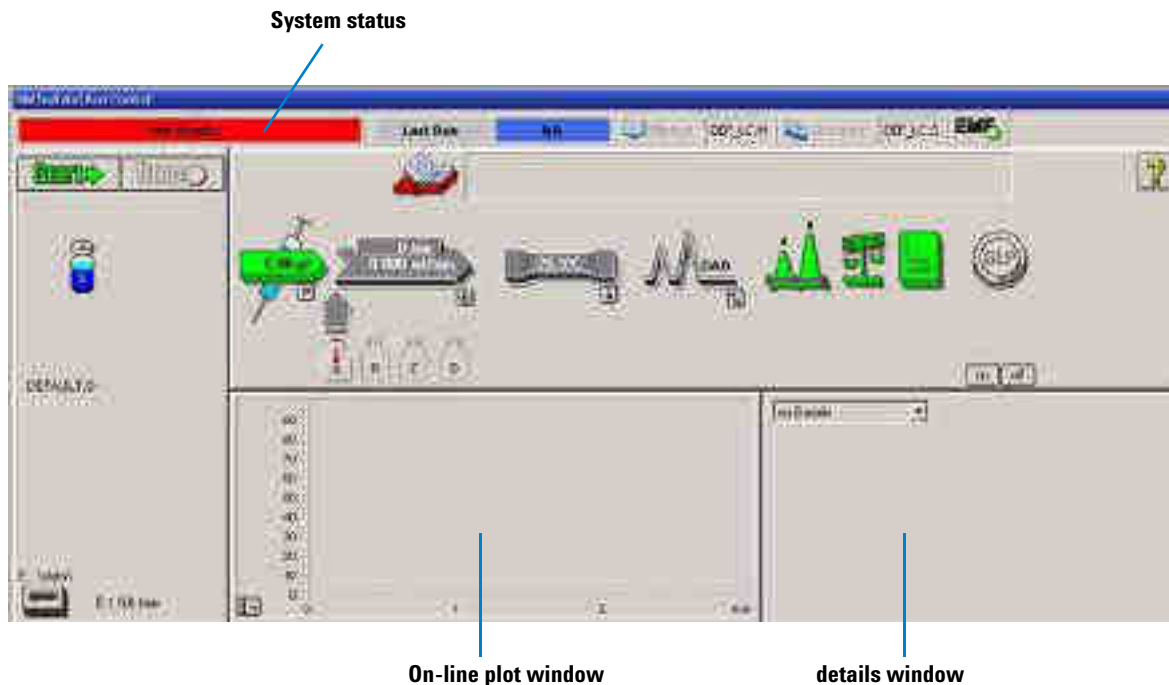

Figure 8 Initial ChemStation screen (Method and Run Control)
- 3 Start the Agilent ChemStation software (B.02.01). If the pump, autosampler, thermostatted column compartment and detector are found, the ChemStation screen should look like shown in Figure 8.